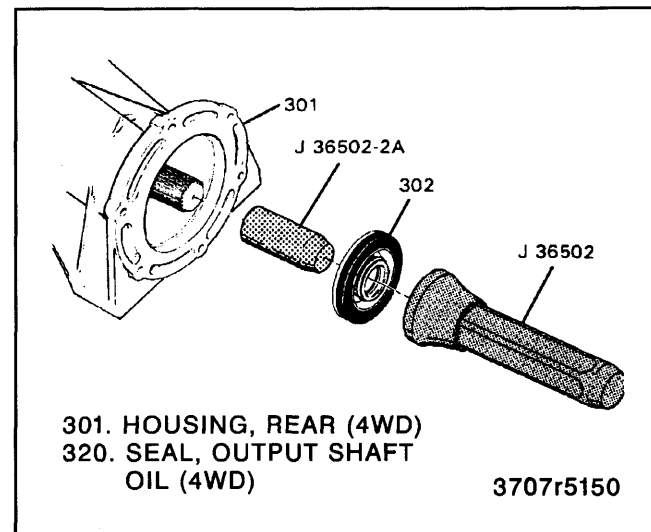

Figure 8—Extension Housing Seal Installation (4WD Models)
Install or Connect (Figure 8)
1. New seal, using J 36502-1 (figure 8).